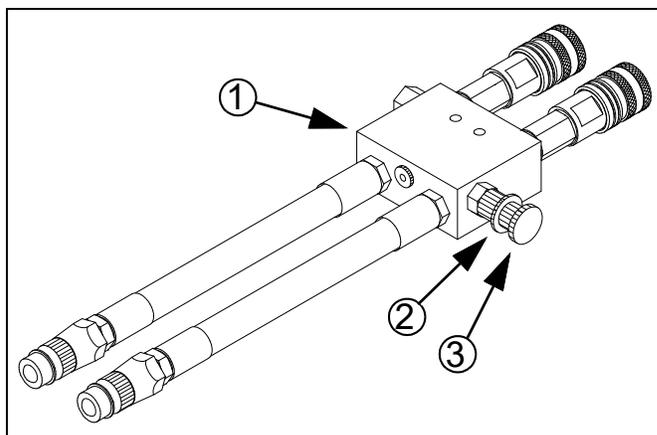
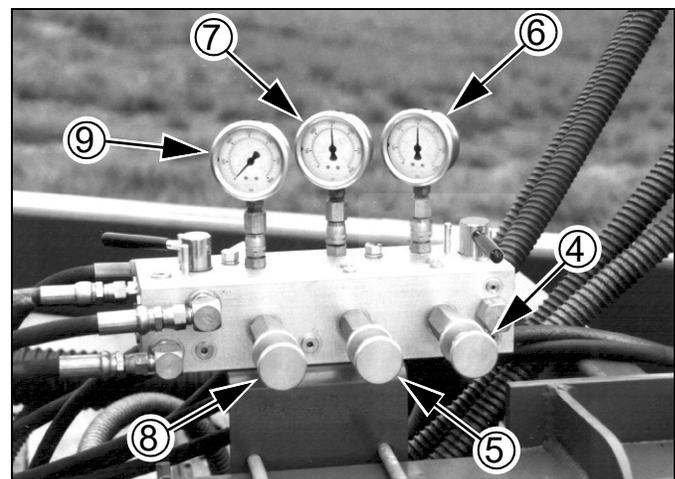

Figure 17
Figure 19
#### Refer to Figure 17
**Refer to Figure 19 and Figure 17**
- Adjust wing and center down-pressure-control valves ④, ⑤ on implement so gauges ⑥, ⑦ read 1500 psi.